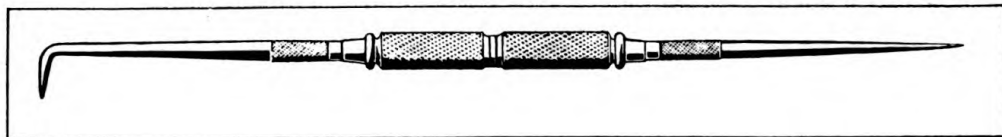

FIGURE 84.—Scriber.
24. Scribes.—The scribe (fig. 84) is used for marking lines on metal, especially in connection with measuring with a rule. Centers can be located with it by using it to draw two intersecting lines and marking the intersection with a prick punch. The bent end is convenient for marking the inside of cylindrical objects or partially closed recesses. Keep the scribe sharp and use it like a pencil with only enough pressure to make a clear mark.